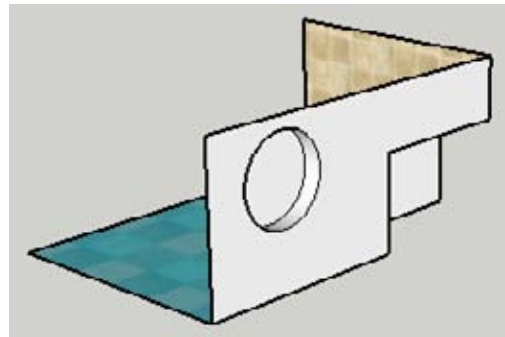

Figure 6-27
- The Push/Pull operations affect the back faces of the walls and floor (Figure 6-27). You could keep the walls and floor whole by using the Ctrl/Option key with Push/Pull, but the wall and floor faces would still be divided by the original clock and bureau edges.